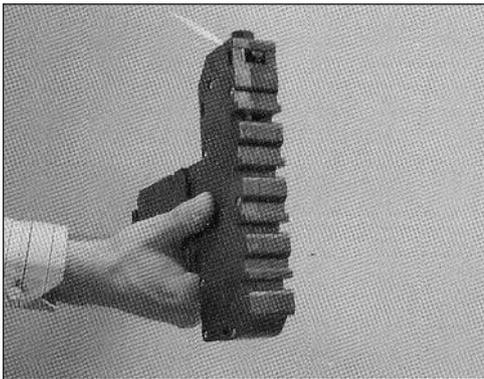

Fig 1
- b Check the jaws on the connector, ensure that they are fully open (Fig 1).